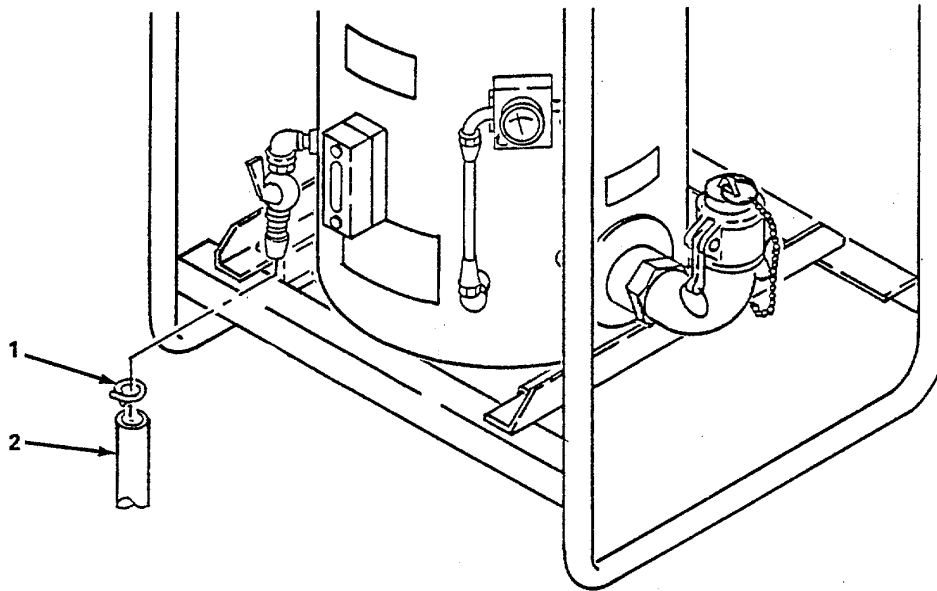

Figure 4-14. Drain Hose, Replace.
- (5) *Drain hose.* (figure 4-14)
- (a) Loosen clamp (1) and remove drain hose (2).
- (b) Refer to appendix G, and make drain hose (2).
- (c) Install drain hose (2) and secure with clamp (1)